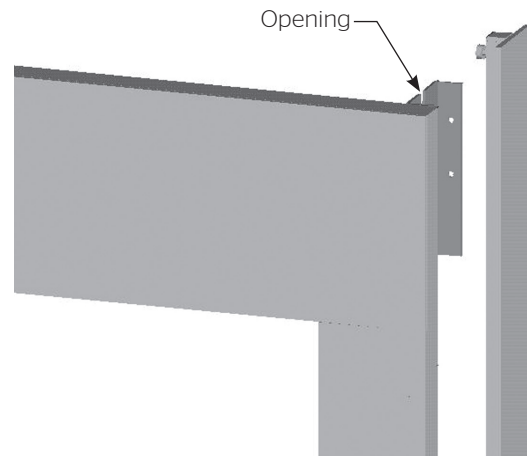

Figure 7
2. Attach the Side Covers to the frame by sliding the Bolts on the Side Cover tube into the openings on the top and bottom brackets. See Figure 7.